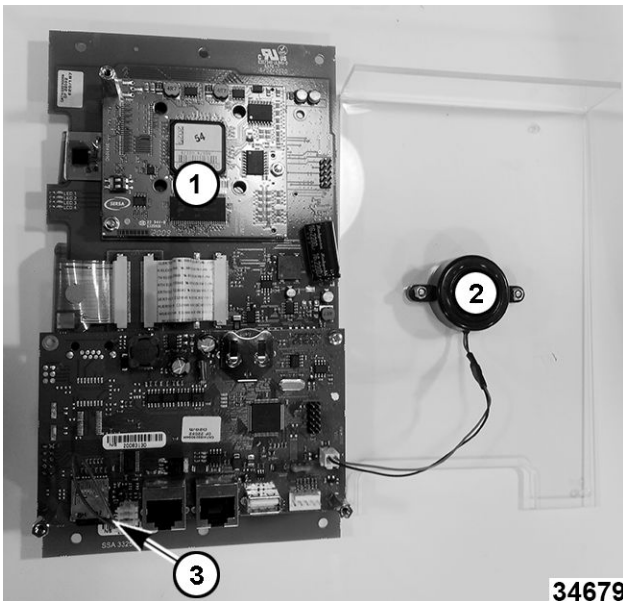

Fig. 17
3. Remove buzzer (2, Fig. 17) from board.